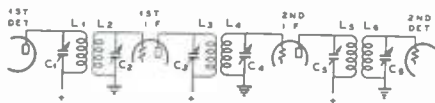

FIG. 2
**Superheterodynes:** A superheterodyne presents an involved alignment procedure since it is necessary to align both the oscillator and first detector as well as the intermediate frequency amplifier. In this case, the latter should be aligned first. **METHOD:** A calibrated modulated oscillator is set to the frequency of the IF amplifier; this is usually between 175 KC and 500 KC. A lead from the oscillator is connected to the grid of the last IF stage, and  $C_3$  and  $C_6$  of Figure 2, varied until maximum signal strength is obtained in the output of the 2nd detector or audio amplifier. The adjustment can be simplified if the receiver has AVC, the tuning meter being used to indicate the maximum signal strength. Since the coupling inductances  $L_5$  and  $L_6$  are generally fixed, the only possible adjustment will be by varying the trimmer condensers. After  $C_3$  and  $C_6$  are properly set, the oscillator power is decreased, then coupled to the grid of the first IF amplifier tube.  $C_3$  and  $C_4$  may then be adjusted for maximum signal strength. The RF input to